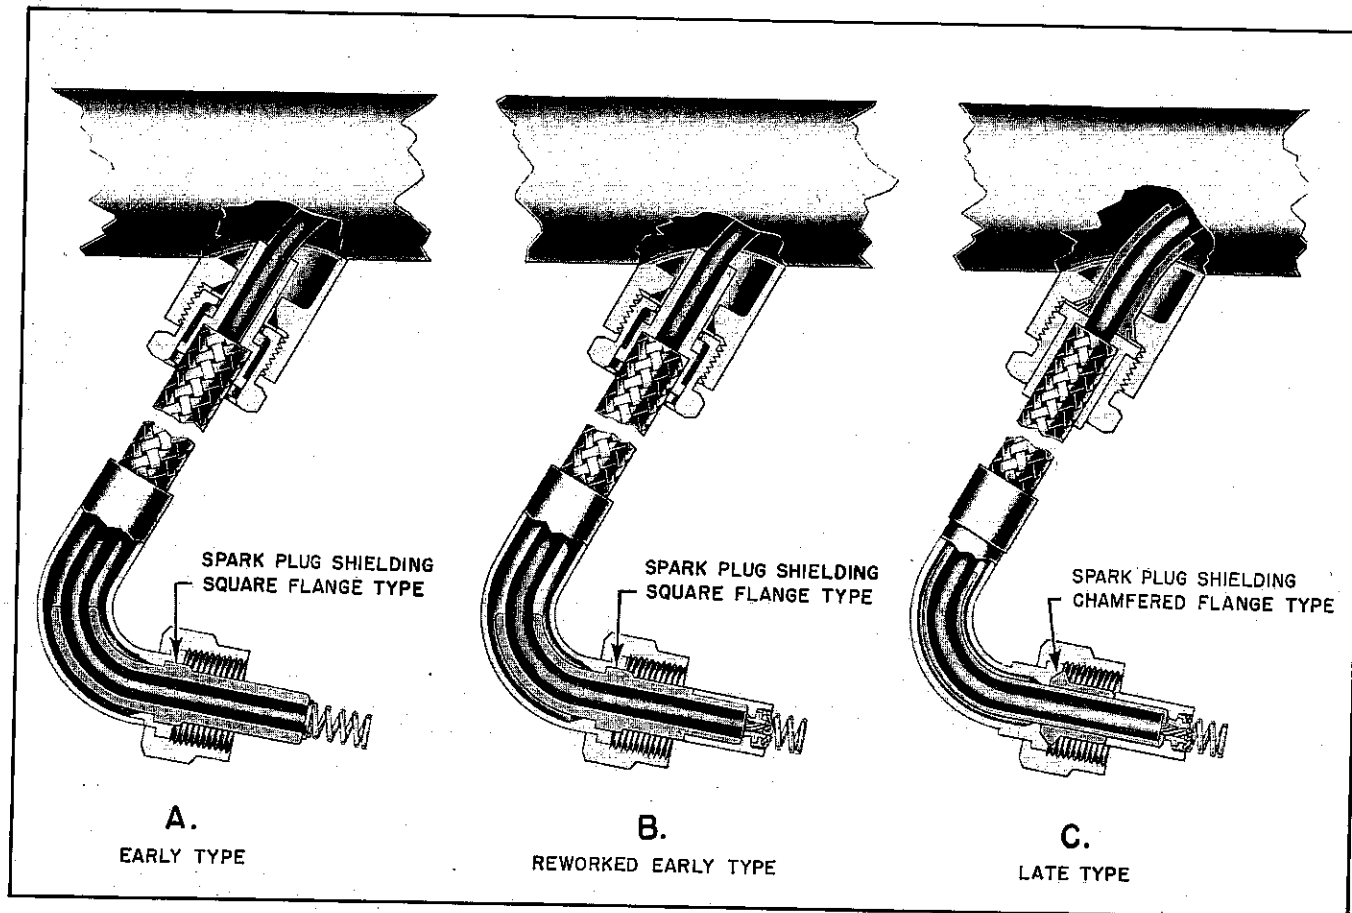
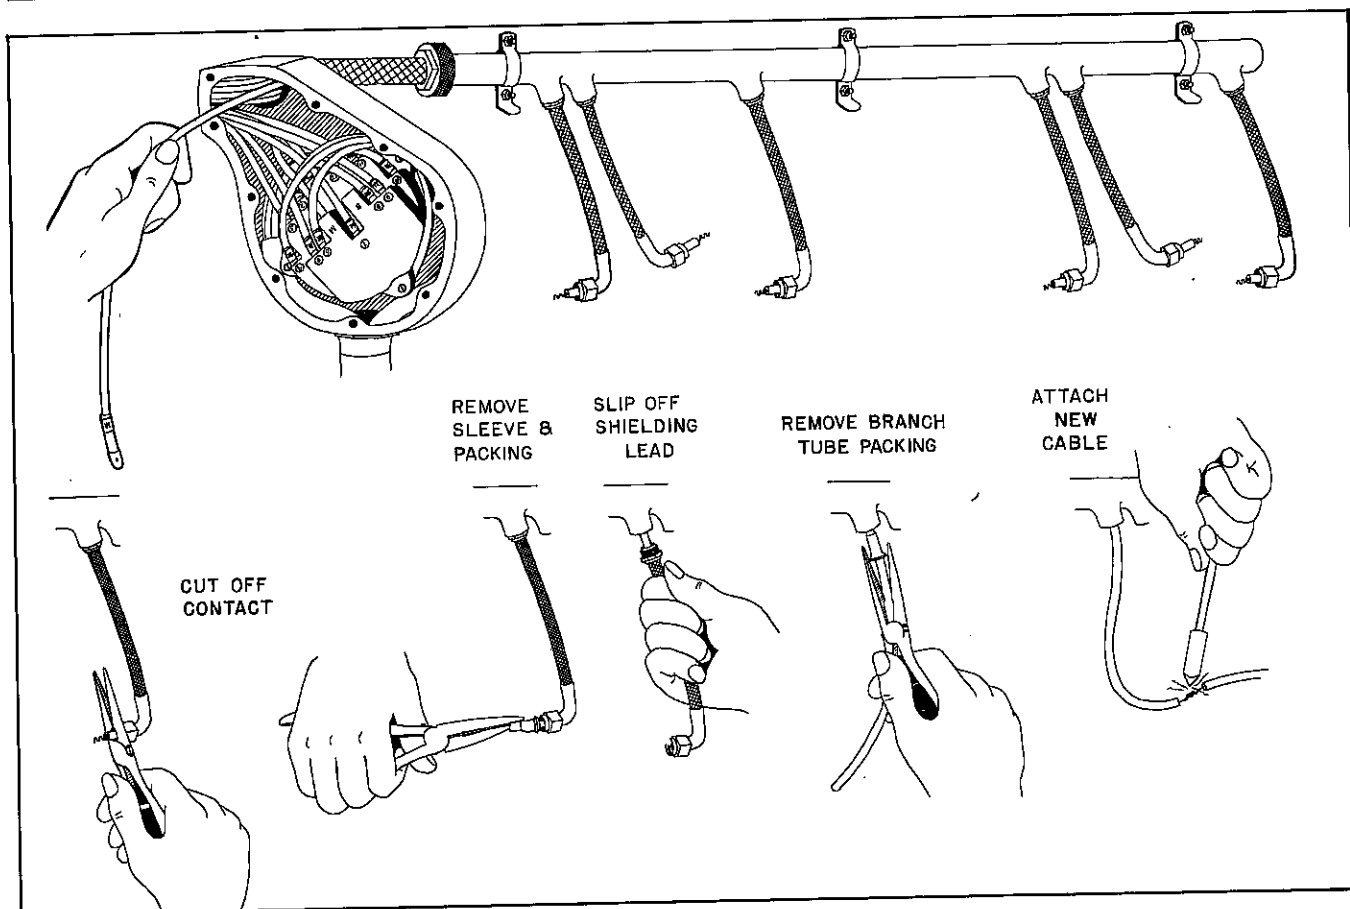
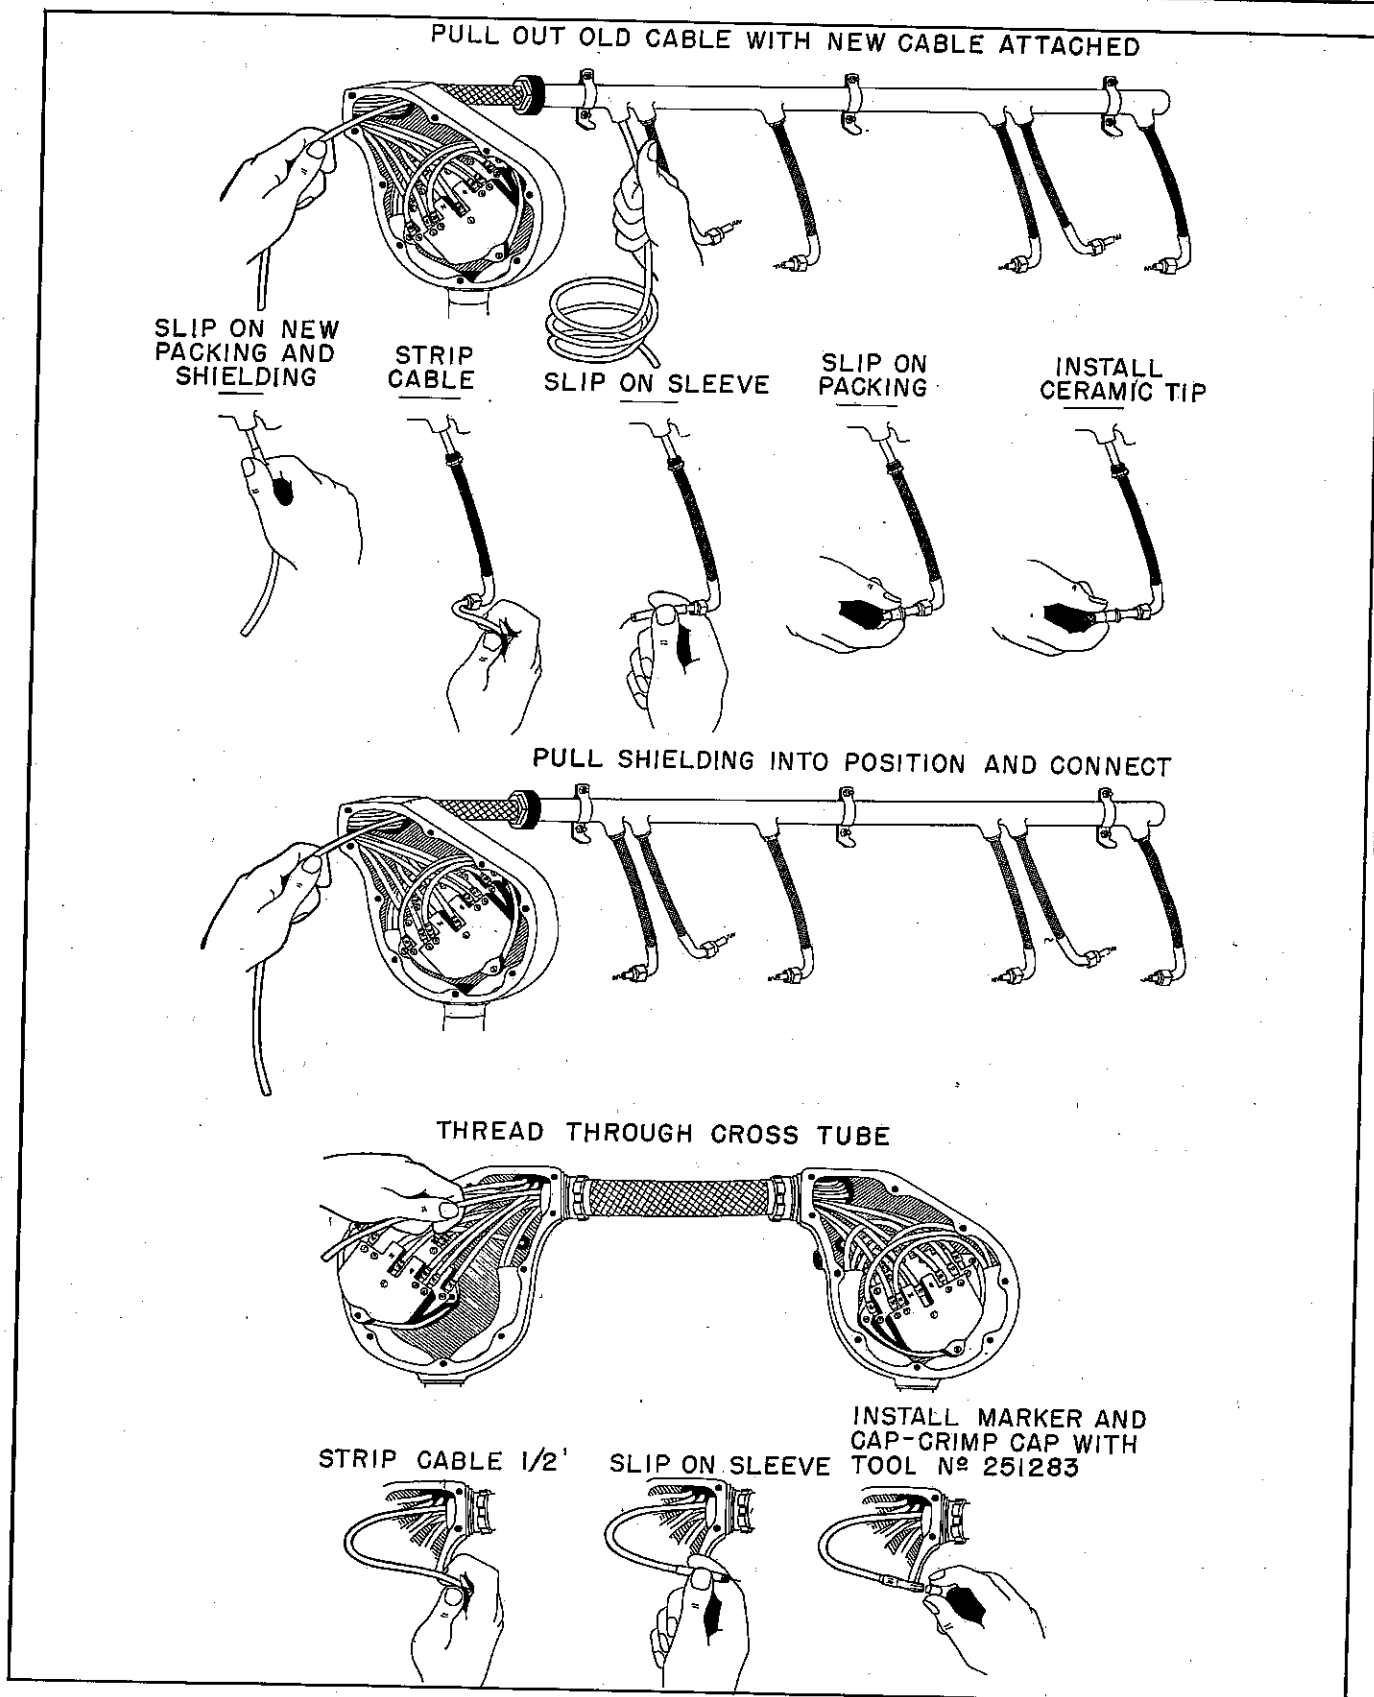

Figure 72—Intake Spark Plug Shielding Types and Methods of Wiring.
Figure 73—Removing Defective Intake Ignition Tube Cable.
Figure 74—Installing Replacement Intake Ignition Tube Cable.
method of wiring. Figure 72 illustrates these differences. Note that the elbows marked "A" and "B" have a square flange which use a square shouldered packing. The elbow marked "C" is supplied with an internal chamfer and can only be used with the late type packing which is beveled to fit. It will also be noted that elbows marked "B" use a packing similar to "A" except that it is moulded with a smaller diameter end for installation of the new ceramic contact.
Service Packing No. S-43524 must be used in lieu of packing No. 37465 when rewiring spark plug shieldings having the flat type flange illustrated in "A" and "B" of Figure 72.
packing is then removed from inside the elbow. Disconnect the spark plug shielding nut located at the branch tube and slip the lead off the cable. See Figure 73. Remove the packing from the branch tube. Refer to Table of Cable Lengths, cut new cable to appropriate length, solder to old cable at branch tube end, pull into place as described under the exhaust cable installation Paragraph *b.* (2) above. Leave approximately 12" of the new cable extending from the branch tube opening. The intake side spark plug shielding leads are packed at the ignition tube branch tube opening by two methods. Refer to Figure 72 and note that the early type shielding lead extends through the branch tube while the late type terminates in a flange and the connecting nut is non-removable. The early type shielding will have the branch tube nut No. 36496, copper ferrule No. 18073 and packing No. 18071 placed on the end of the shielding. On late shielding slip a new branch tube packing over the cable with beveled side down so that the extended end protrudes into the intake tube. Next thread the spark plug shielding lead over the end of the cable leaving approxi-
(a) **REPACKING EARLY TYPE SPARK PLUG SHIELDING ELBOWS.**—Examine the end of the elbow flange to determine if it has a square face as shown in "A" and "B" of Figure 72. Cut the cable insulation squarely $11/32$ " from the end and strip off. Install the packing part No. S-43524 on the cable after dusting with soapstone or talc. Thread the spark plug contact assembly over the end of the wire and onto the small diameter end of the elbow packing. The strands of the wire will protrude into the inside diameter of the spark plug contact spring. Separate the strands of the wire and bend them radially and firmly over the base of the contact spring. Do not solder. The packing is then slipped carefully into the elbow until the shoulder is seated. The extra cable length is then taken up and the shielding assembly attached at the branch tube. (See Figure 74.)
(b) **REPACKING LATE TYPE SPARK PLUG SHIELDING ELBOWS.** — Examine the end of the elbow flange to determine if it has a chamfered face as shown in "C" of Figure 72. Cut the cable insulation squarely $11/32$ " from end and strip off. The small diameter sleeve approximately $3\frac{1}{2}$ " long is dusted with talc or soapstone and slipped over the end of the cable. Next slip the beveled flange packing over the sleeve. Thread the spark plug contact assembly over the end of the wire and onto the cable end. The strands of the wire will protrude into the inside diameter of the spark plug contact spring. Separate the strands of the wire and bend them radially and firmly over the base of the contact spring. Do not solder. The chamfered packing should then be slipped back until it butts firmly against the end of the contact spring assembly. The assembled end is then slipped carefully into the elbow until the shoulder is seated. The extra cable length is then taken up and the shielding assembly attached at the branch tube. (See Figure 74.)